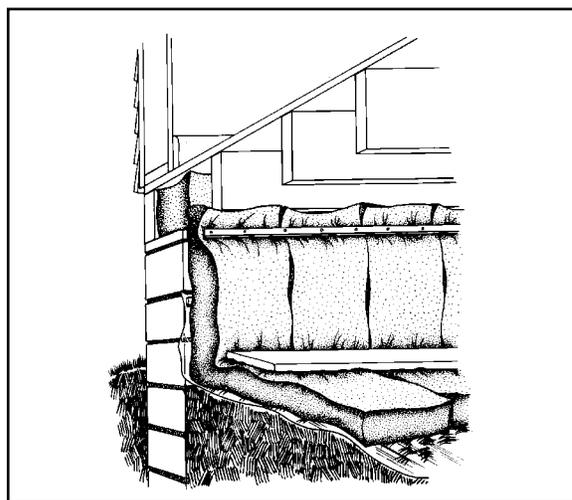

Figure 1
- **Crawl spaces beneath heated spaces.** To control moisture, a polyethylene moisture barrier should be placed over the entire ground and extended up four to six inches on the crawl space walls and sealed to the walls. The walls of the crawl space can be insulated with batts or with rigid insulation placed either on the exterior or interior of the walls (See Figure 1 ).